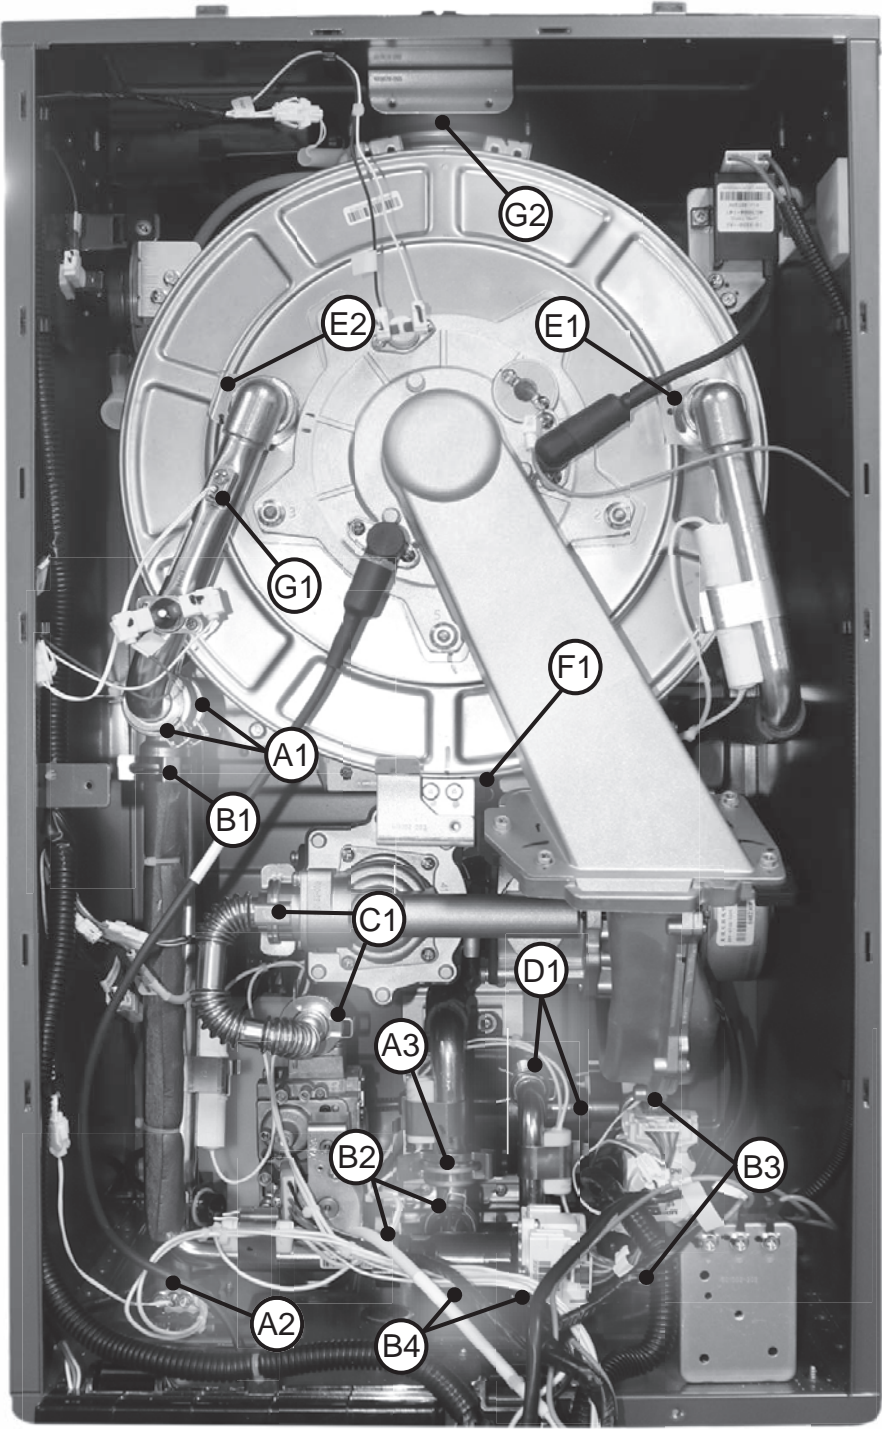

Figure 266 - Fastener Location Guide
**NOTE:** Some components in Figures have been removed to provide clarity. Use the component overview See Figure 266 to reference the general location of fasteners. Diagram callouts reference the Figures in the following sections.